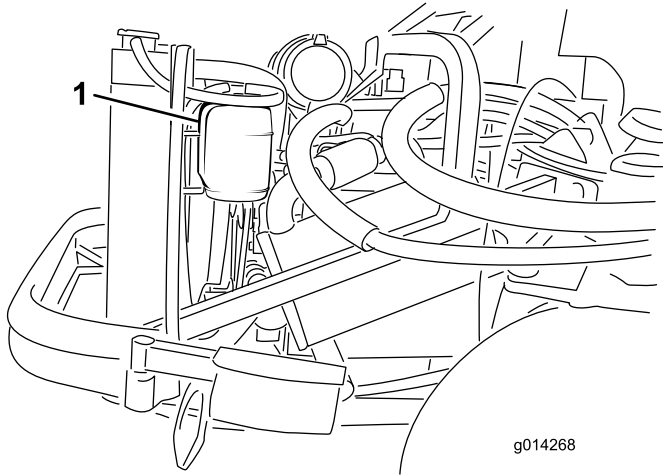

Figure 41
1. Check the level of the coolant in the expansion tank (Figure 41). The coolant level should be between the marks on the side of the tank.